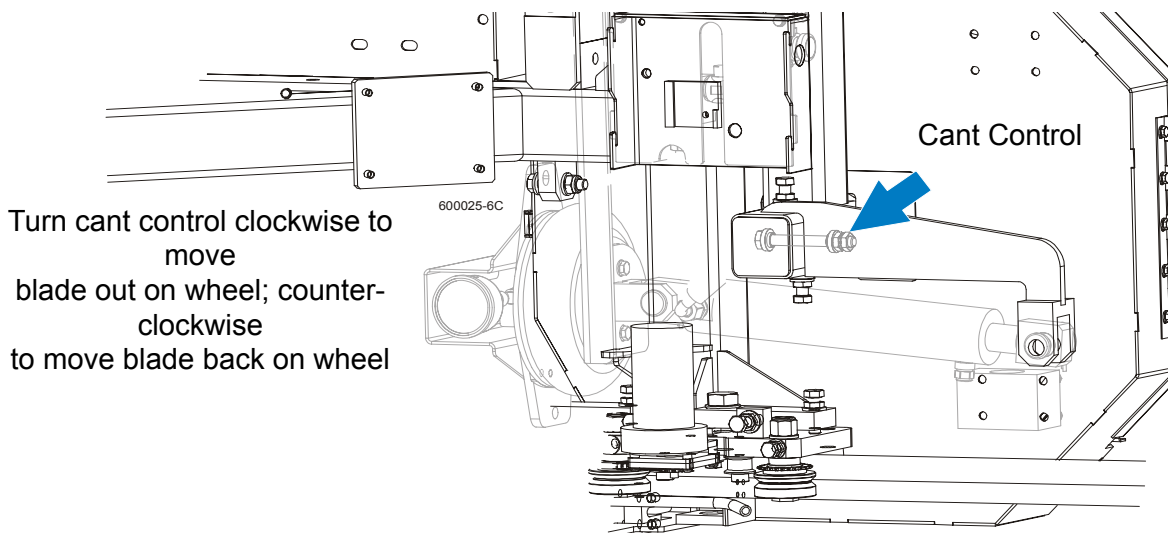

FIG. 7-20
**See Figure 7-20.** Use the cant control adjustment to adjust the idle-side blade wheel. If the blade is too far forward on the wheel, turn the cant control counterclockwise. If it is too far back on the wheel, turn the cant control clockwise.